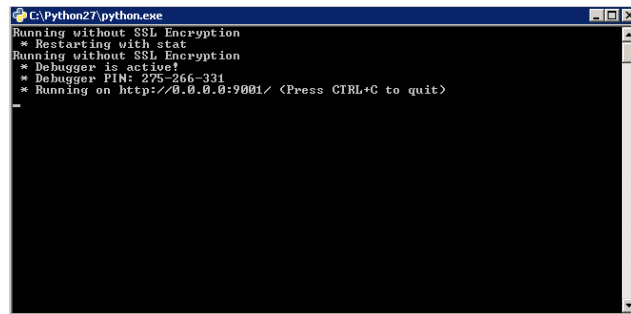

Figure. 1a: Python window
- The Python status window will appear as shown in Figure 1a.
- To stop the Python web server, select the running Python screen as shown in Figure 1a. Select “Ctrl + C”